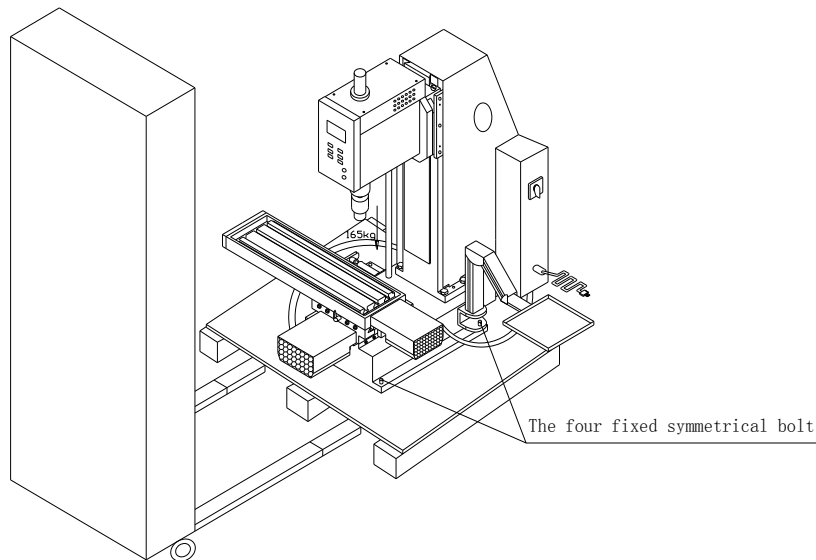

Figure 2-1
2.3.1.1 Machine should be moved as Figure 2-1